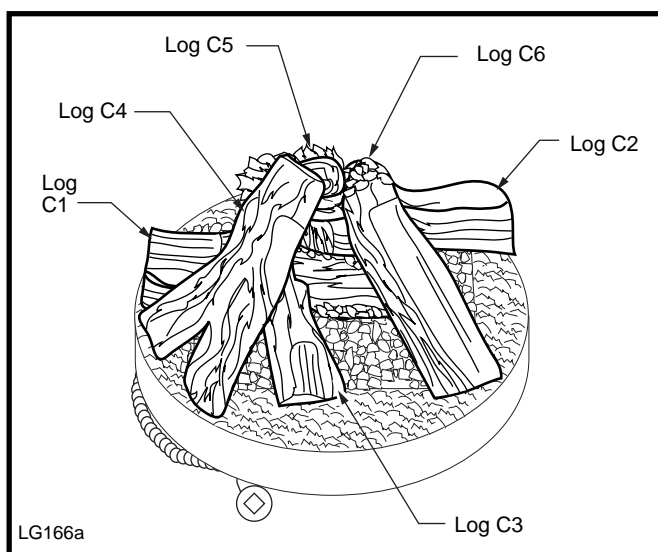

Fig. 15 Log C6 placement.
9. Flex line on left. Place log C6 so the top of the log is over log C3 and bottom of log is over corner of the burner pan. (Fig. 15)